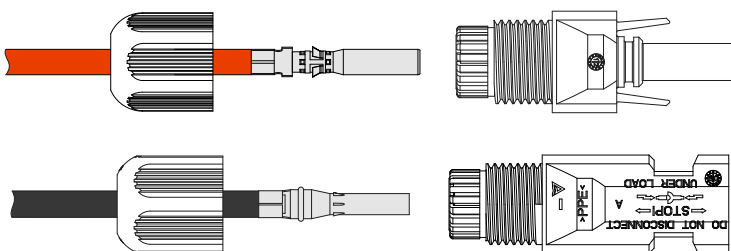

Figure3-18 Fasten the metal terminal
Step 3 Insert the positive wire and negative wire into corresponding insulation crust respectively. If there has a click sound, it means that the wire have been inserted properly, as shown in Figure3-18.